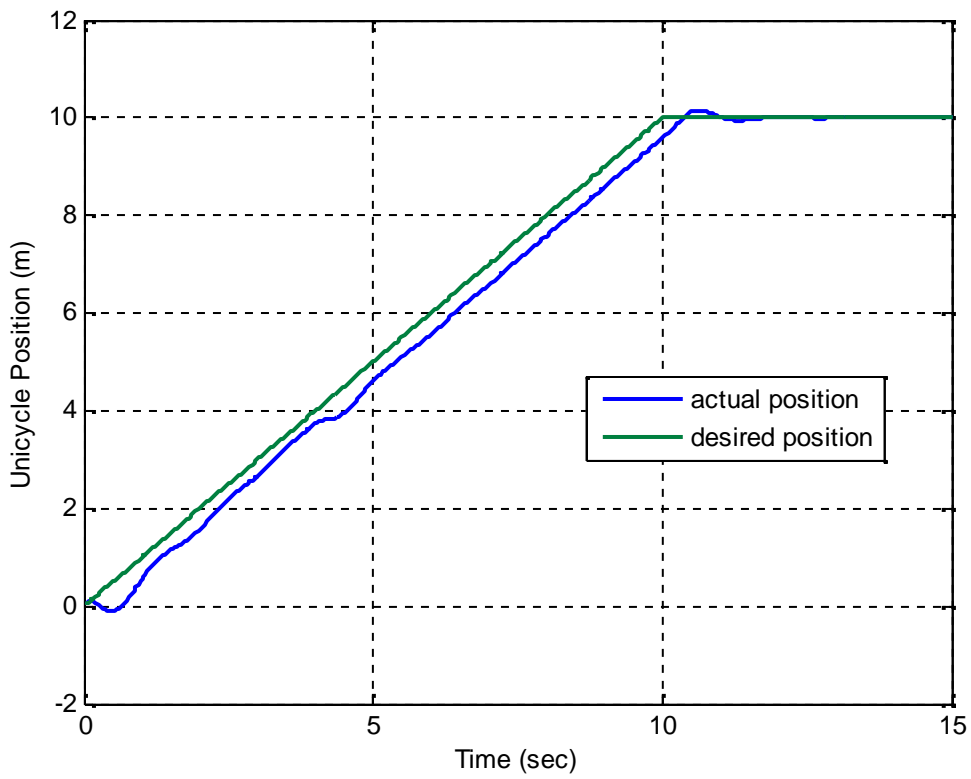

Figure 4.15 Unicycle position with time
- Zero steady-state error in unicycle position and that is resulted from the nature of the system plant, which is type one (Figure 4.15).